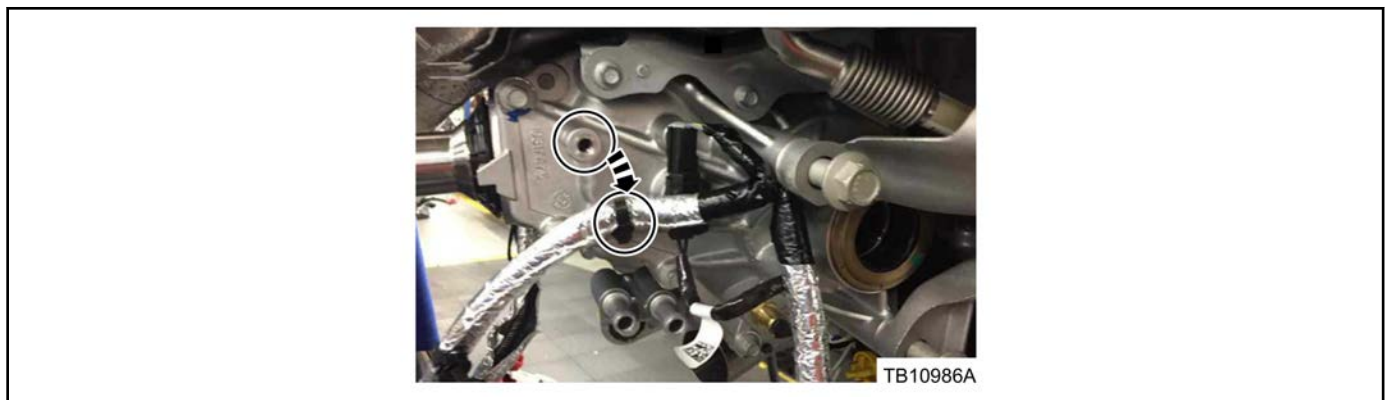

Figure 3 - Article 16-0159
- a. Attach the new wiring harness retention clip to the lower boss retention point on the PTU. (Figure 3)